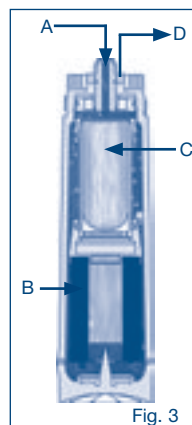

Fig. 3
The tap water (A) is entering the filter cartridge (Fig. 3) and the water is filtered by an activated carbon-block (B). Particles, dissolved organic matter, natural colorants and substances responsible for bad taste and odours e.g. chlorine are removed.